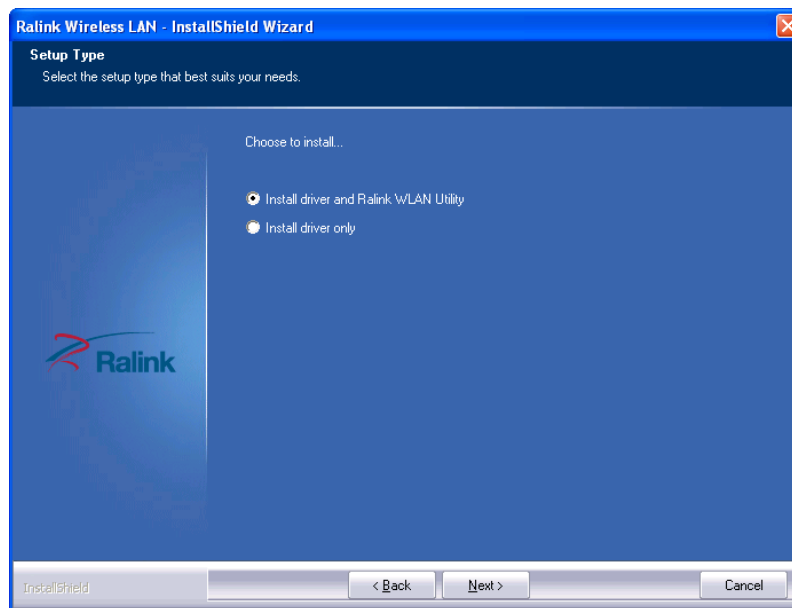

Figure 6-25: Setup Type
Step 5: The **Setup Type** screen in **Figure 6-25** appears.